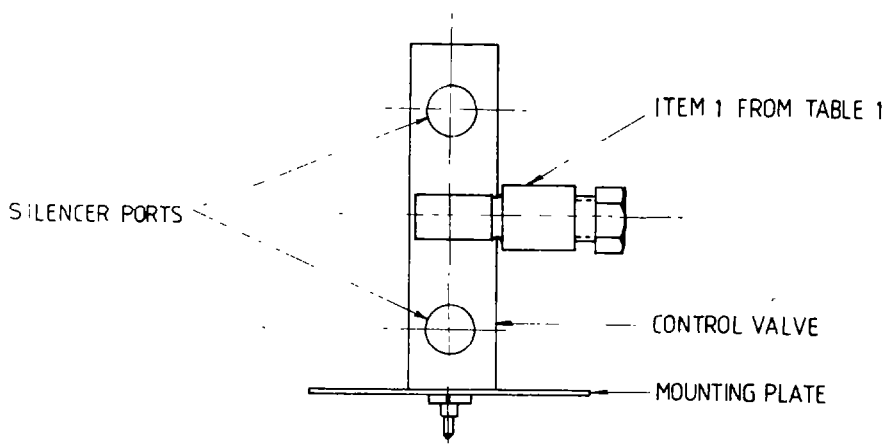

FIG 2 - POSITION OF ELBOW
- j. Place a liberal amount of sealant (item 2 from Table 1,) onto the male thread end of the elbow.
- k. Screw the elbow into the centre port and tighten. Continue to tighten further until the elbow is positioned as shown in Fig 2.